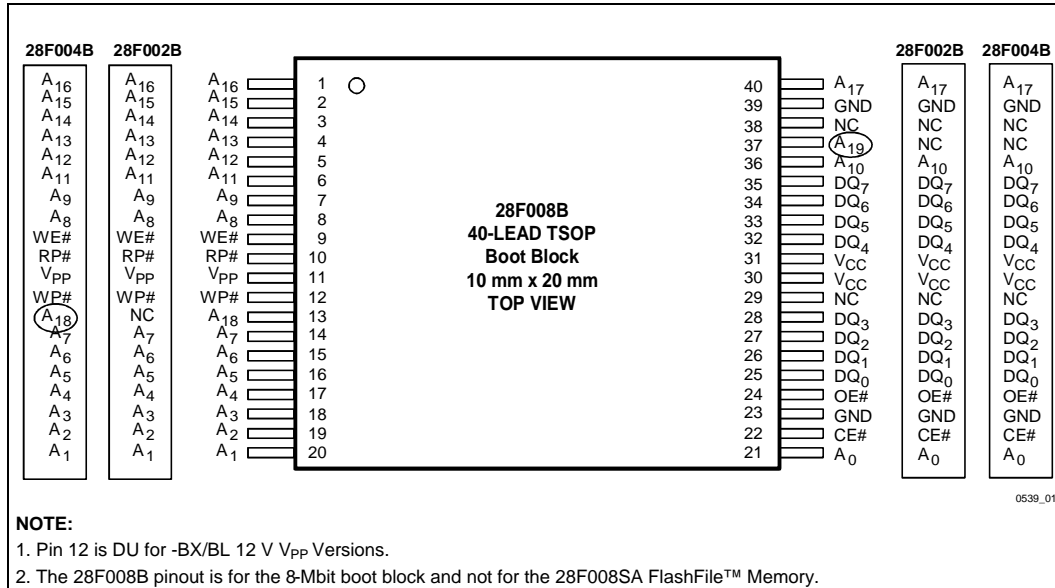
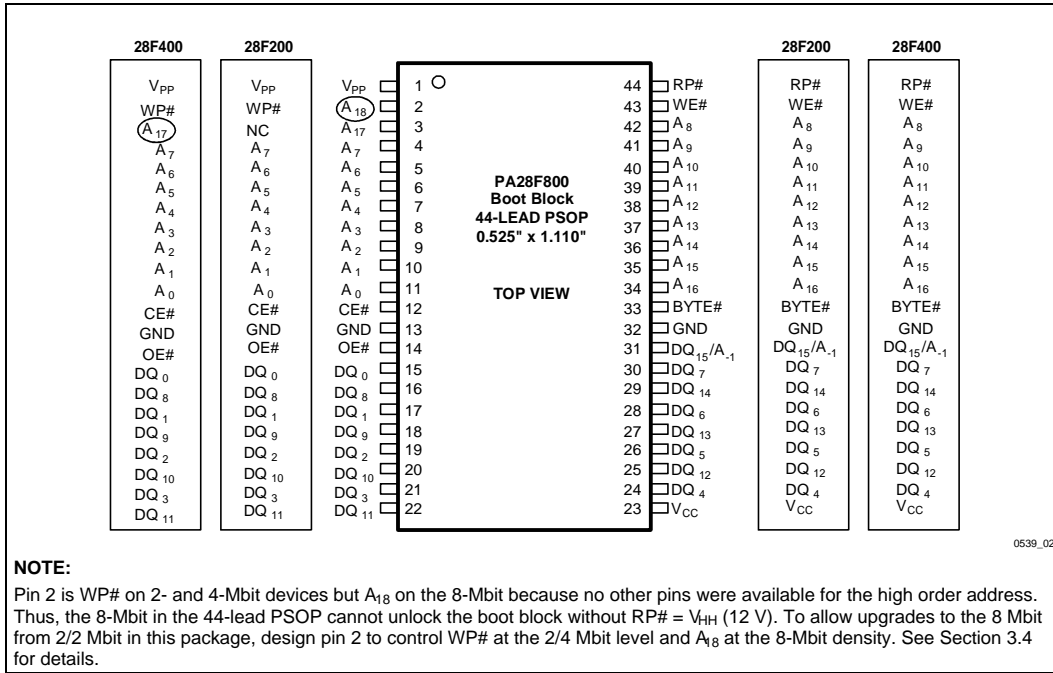
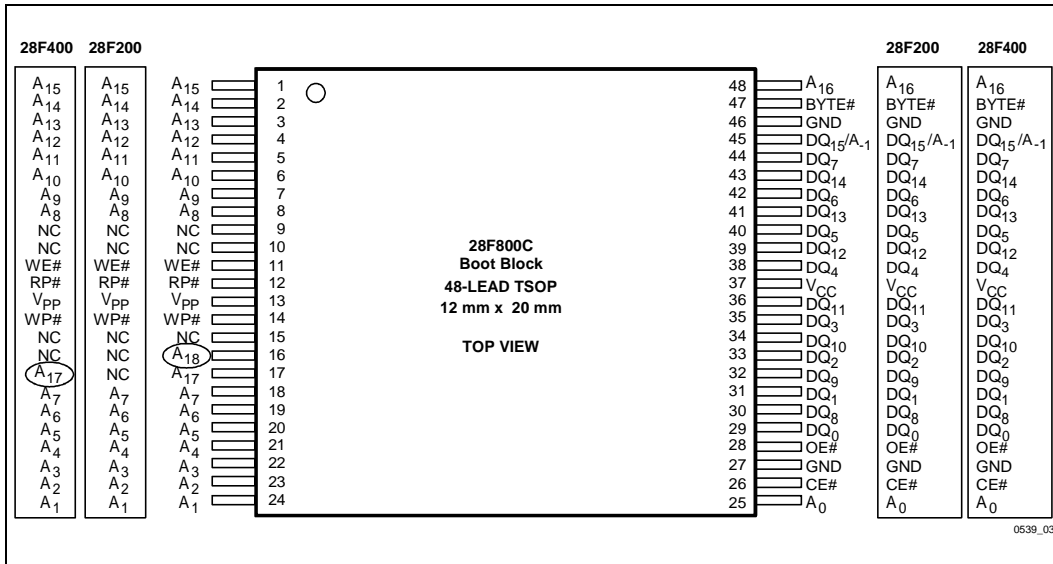

Figure 1. The 40-Lead TSOP Offers the Smallest Form Factor for Space-Constrained Applications
Figure 2. The 44-Lead PSOP Offers a Convenient Upgrade from JEDEC ROM Standards
Figure 3. The 48-Lead TSOP Offers the Smallest Form Factor for x16 Operation
- WP# pin has replaced DU (Don’t Use) pin #12 in the 40-lead TSOP package. In the 44-lead PSOP, DU pin #2 is replaced with A₁₈ (see Figure 1 and Section 3.4 for details). Connect the WP# pin to control signal or to V_{CC} or GND (in this case, a logic-level signal can be placed on DU pin #12 for 40-lead TSOP). See Tables 2 and 9 to see how the WP# pin works.
To upgrade from lower density SmartVoltage boot block products, the similar pinouts in the 40-lead and 48-lead TSOP packages provide easy upgrades by adding extra address lines (see Figures 1 and 3). In the 44-lead TSOP, the WP# pin on the 2-Mbit and 4-Mbit BV parts becomes A₁₈, removing the capability to unlock the boot block with a logic-level signal in this package **only**. The boot block can still be unlocked with 12 V on RP# (see Figure 2 and Section 3.4 for details).
The 28F800 products are available in the 44-lead PSOP (Plastic Small Outline) package (a ROM/EPROM-compatible pinout) and the 48-lead TSOP (Thin Small Outline, 1.2 mm thick) package as shown in Figures 2, and 3, respectively. The 28F800 is not available in 56-lead TSOP. The 28F008B products are available in the 40-lead TSOP package as shown in Figure 1.
The 28F008B 40-lead TSOP pinout for space-constrained designs is shown in Figure 1. For designs that require x16 operation but have space concerns, refer to the 48-lead pinout in Figure 3. The 28F800 44-lead PSOP pinout follows the industry-standard ROM/EPROM pinout, as shown in Figure 2.